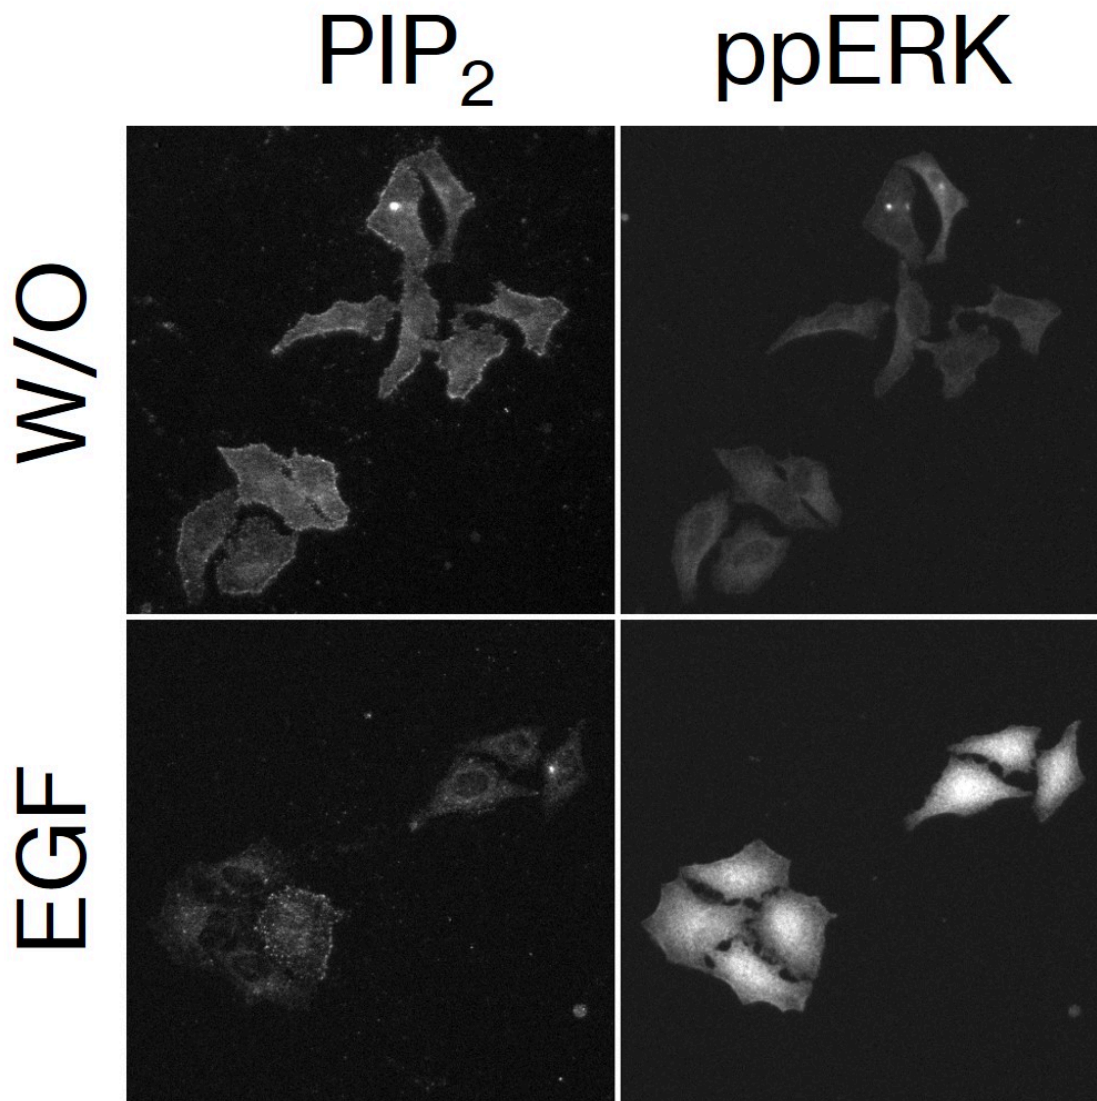

Figure 1. HeLa cells were stimulated with EGF and then labeled with anti- PIP_2 antibody and anti-ppERK antibody as described above.
- An example of a fluorescent image is shown in Fig. 1 and distribution of cellular fluorescence intensities is shown in Fig. 2.